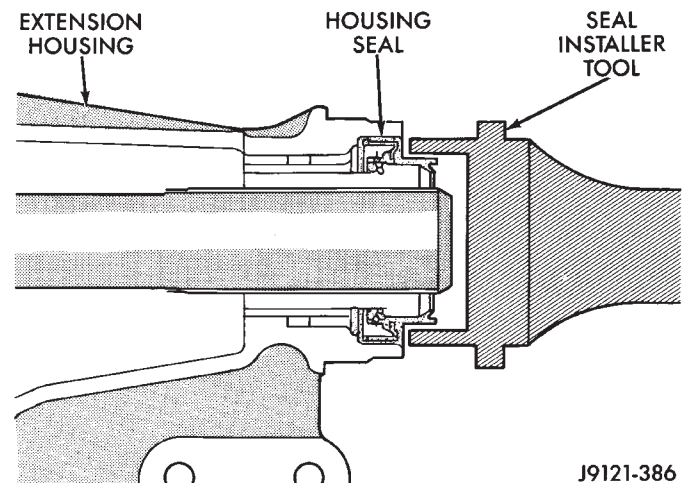

Fig. 129 Installing Extension Housing Seal—2WD Models
(35) On 2-wheel drive models, install new seal in extension housing with suitable size installer tool (Fig. 129). Lubricate seal lips with petroleum jelly before installation.
(36) On 2-wheel drive models, install speedometer driven gear (if removed), and vehicle speed sensor.